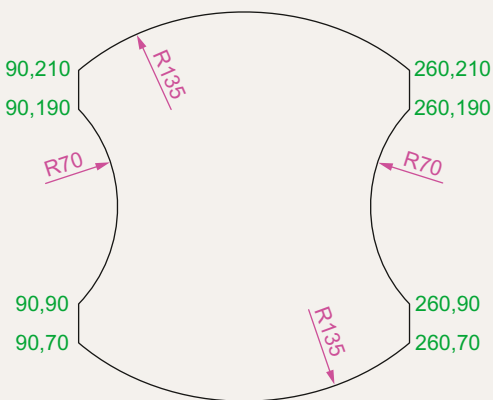

Fig. 3.45 Exercise 2
pick boxes of the left-hand drawing of Fig. 3.45
- With the **Line** and **Arc** tools, construct the outline Fig. 3.45.